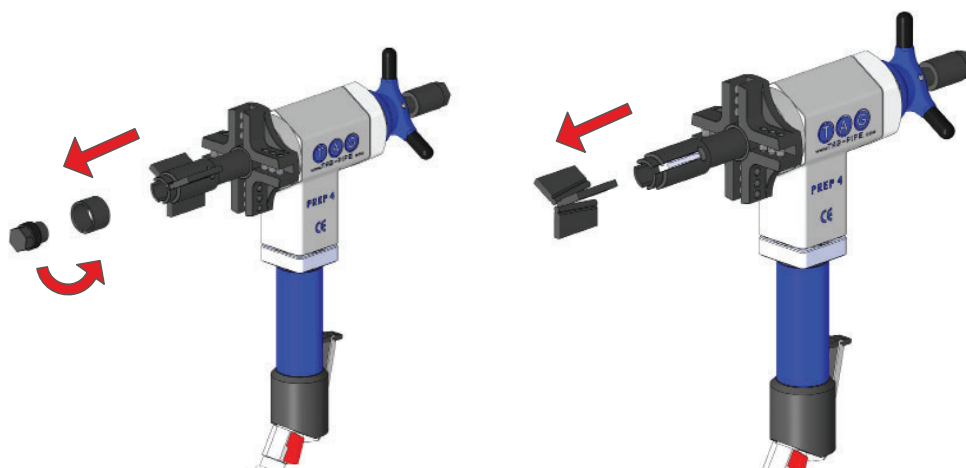

Figure 3-2 Removing shaft end nut, shaft ring and locking jaws
1. First, remove the shaft end nut and shaft ring as shown in Figure 3-2. Then insert the appropriate locking jaws in the shaft as shown in Figure 3-7. Hold the jaws and unscrew the lock nut on the rear of the machine to allow the jaws to enter their seat. If this is done correctly, the locking jaws should have a little play.